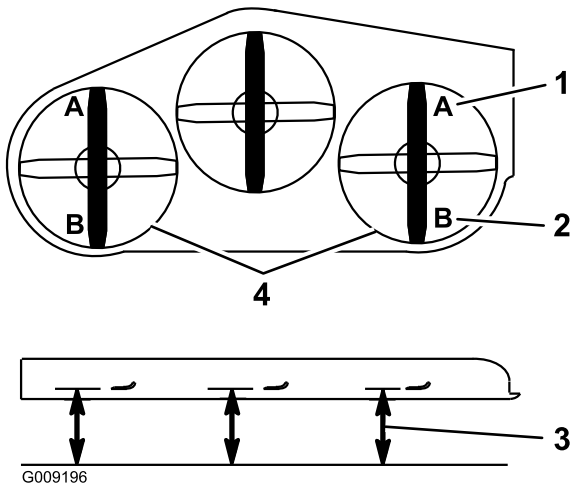

Figure 92
9. On both sides of the deck, measure from the level surface to the front tip of the blade (Position A). The measurement should read 7.6 mm (3 inches) as shown in Figure 92.
15. On both sides of the deck, measure from the level surface to the back tip of the blade (position B) as shown in Figure 92.